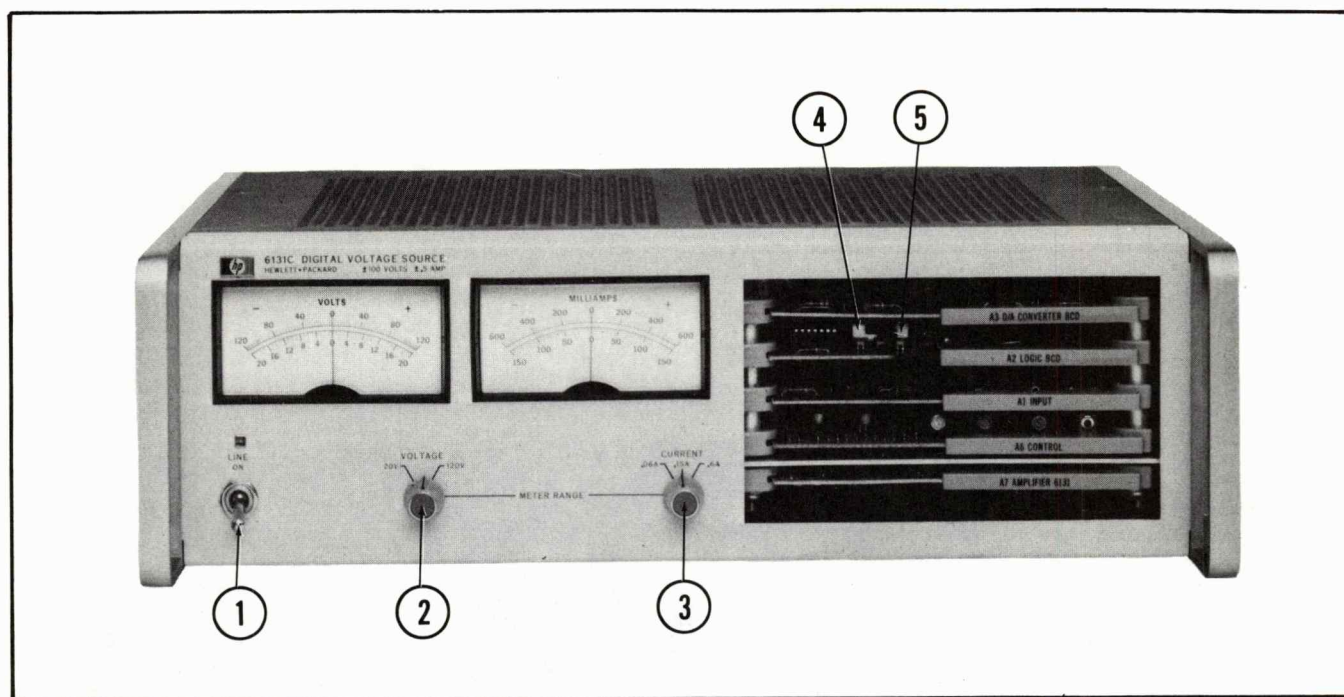

Figure 3-2. Operating Controls and Indicators
3-4 To turn on the unit, set the LINE switch (item 1 in Figure 3-2) to ON. The pilot light directly above the LINE switch should light. Fuse 1 (2A at 115Vac or 1A at 230Vac) protects the main power supply.
3-18 With the STORAGE switch (4) (Figure 3-2) in the STORE position, the voltage, sign, range, and current latch program data are stored when the gate is received from the computer. In the DISABLE position, indicator DS1 (5) lights and the data are processed as soon as they are received.